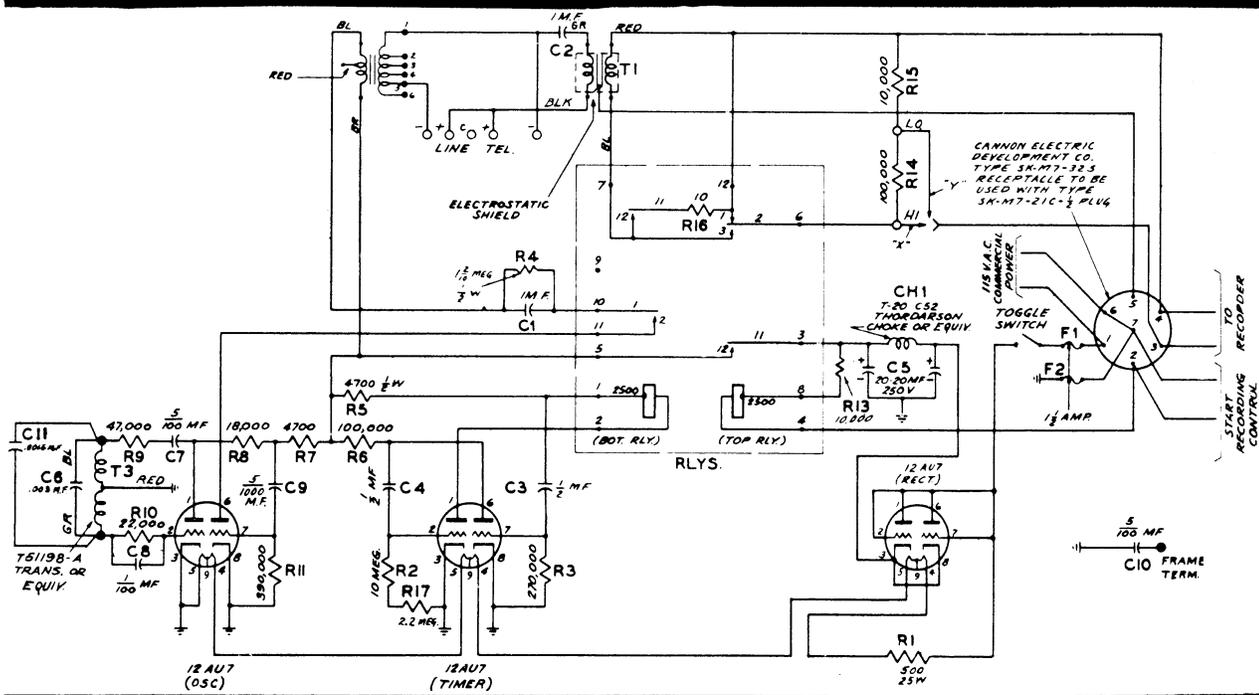

Fig. 4. Wiring Schematic of A. E. Co. Type 31 Recorder Connector
3.02 The recorder connector is set for "X" wiring at the factory for recorders having automatic volume control. See Table 1 to be certain correct wiring is used for the type recorder being used. See Fig. 4 for wiring schematic.